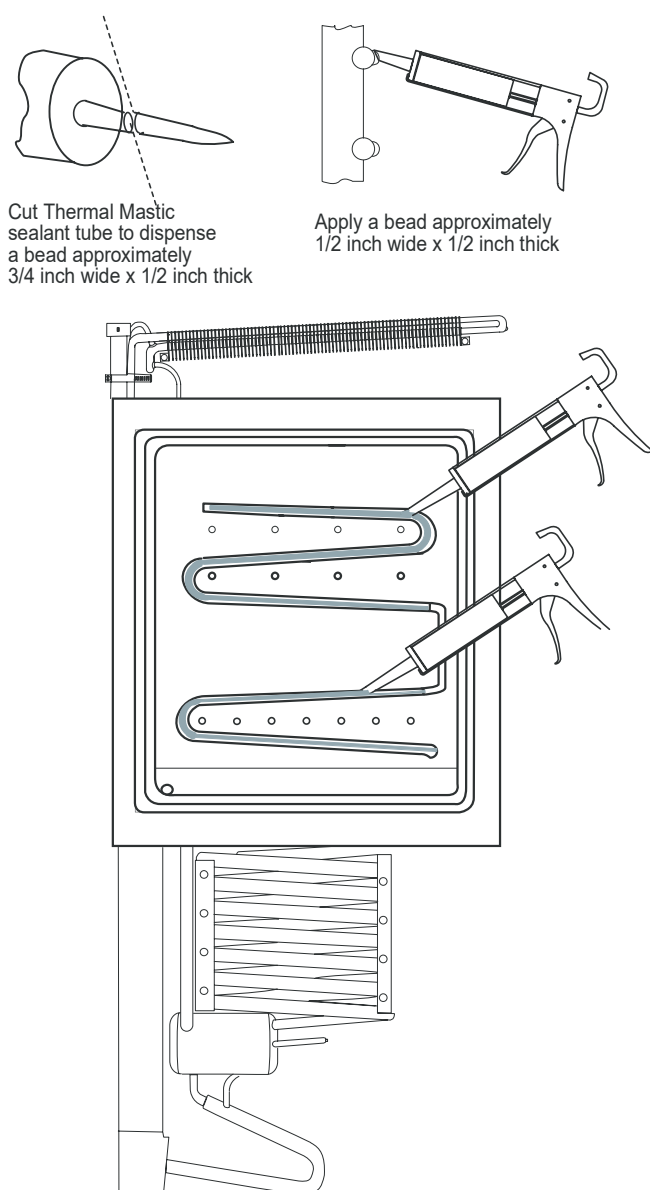

Figure 8-6. —Sealant application on evaporators.
1. Apply a 3/4 inch wide x 1/2 inch thick bead of Thermal Mastic sealant to the evaporator section of the cooling system as shown in Figure 8-6, page 71.